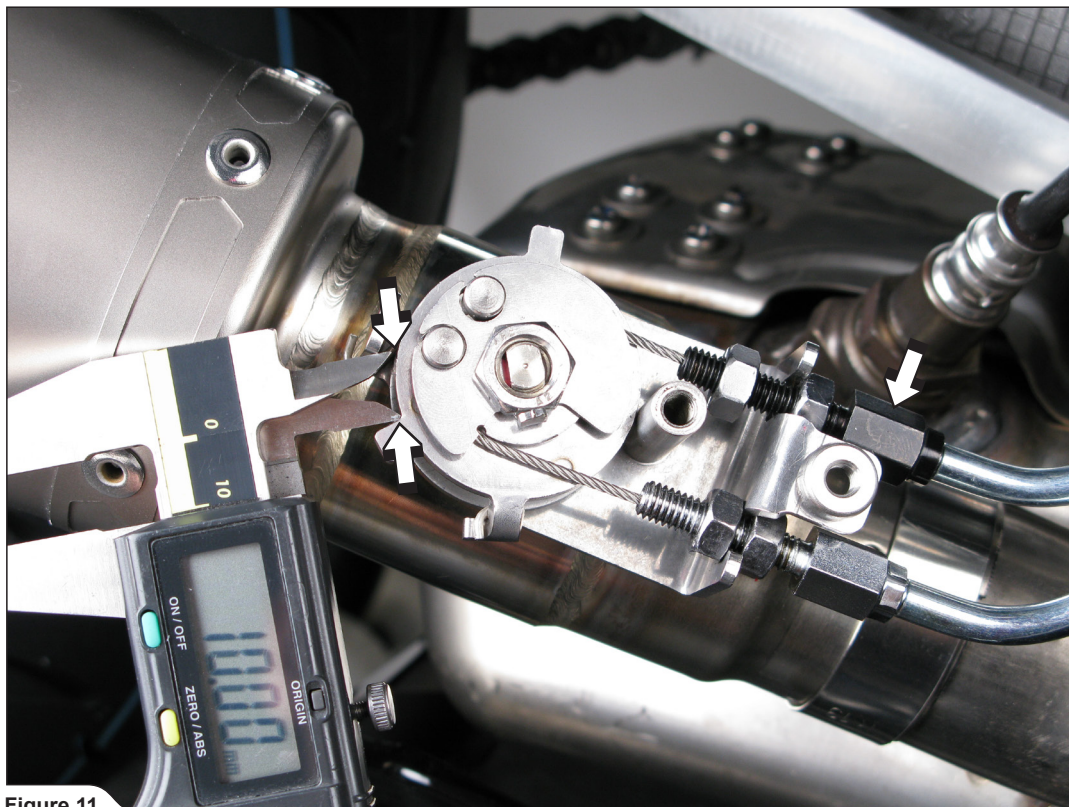

Figure 11
- Adjust the upper adjuster (black), until the distance between exhaust valve wheel stoppers is 10mm (Figure 11).